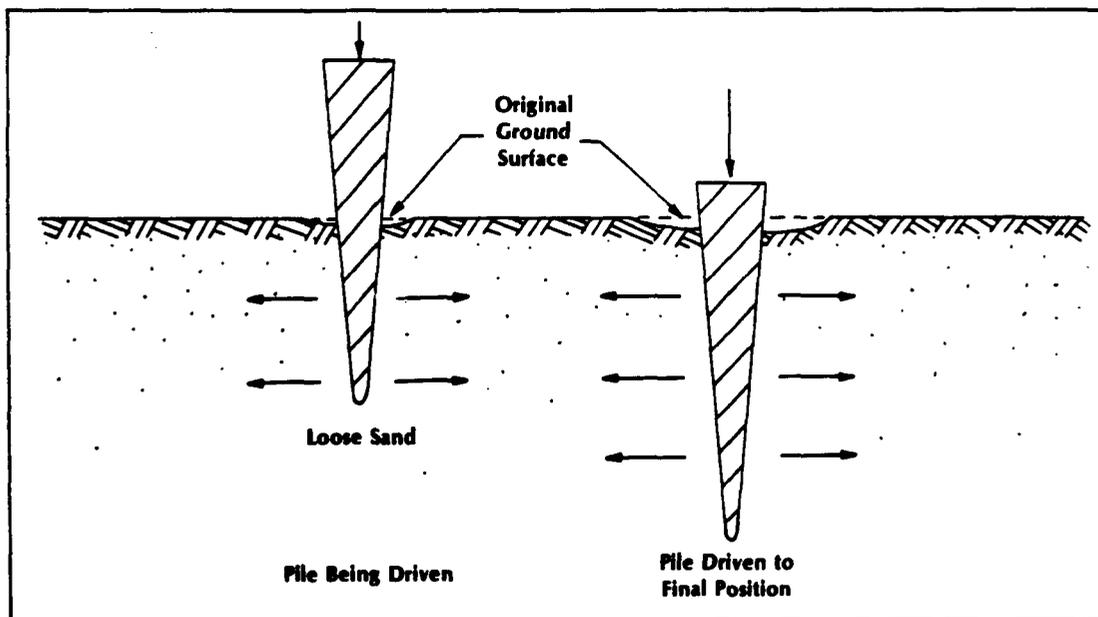

Figure 1-7 Compaction piles
f. Compaction piles. Compaction piles are driven to increase the density of loose, cohesionless soils (figure 1-7) and to reduce settlement, since shallow foundations on very loose deposits of sand or gravel may settle excessively. Piles with a heavy taper are